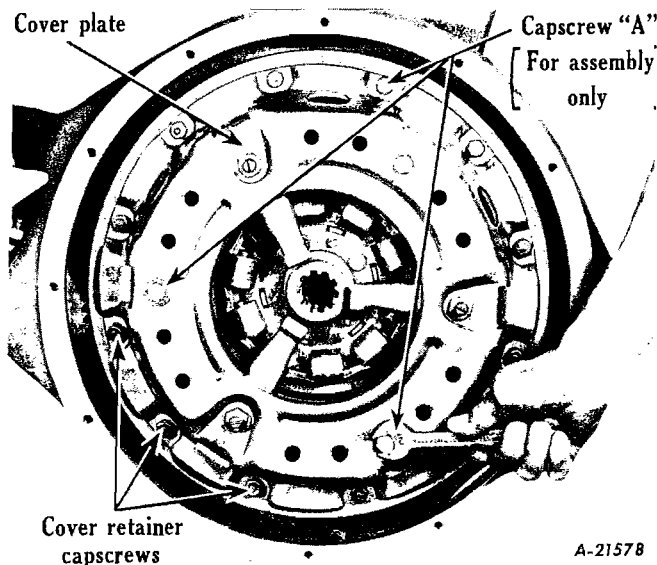

Fig. 6 - Install capscrews "A" before removing clutch assembly.
The clutch pressure plate (E) is drilled and tapped so that three capscrews (A) (see specifications for sizes) with washers may be inserted through the cover plate (D), thereby holding the clutch assembly compressed when it is removed or installed (Fig. 6). With three
Remove the three capscrews (A) used to hold the assembly while removing it from fly-wheel (Fig. 6).